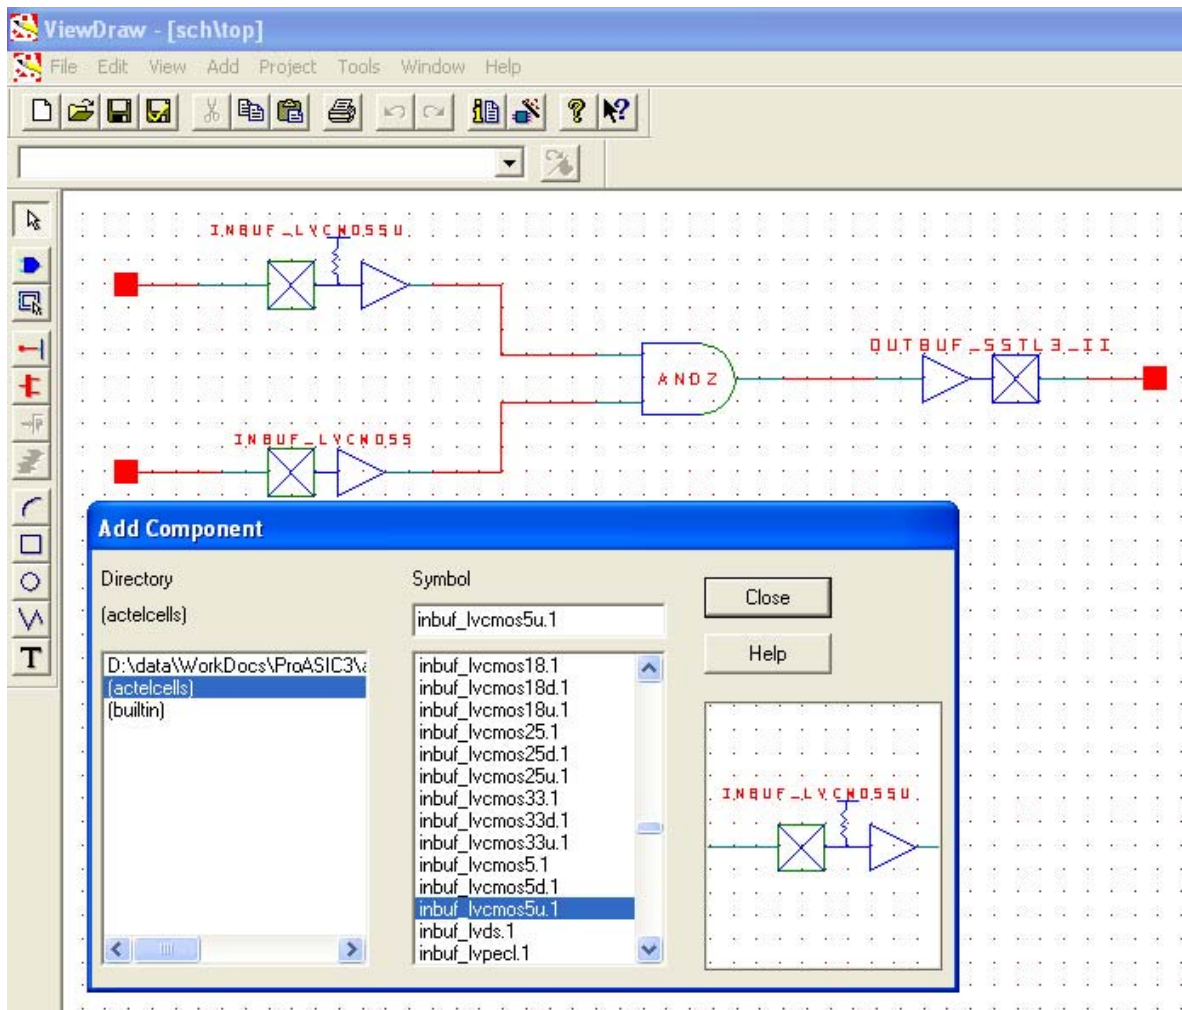

Figure 8-5 • I/O Buffer Schematic Cell Usage
5. Enter a name for the macro. Click **OK**. The core will be generated and saved to the appropriate location within the project files (Figure 8-5 on page 191).
Libero SoC software includes the ViewDraw schematic entry tool. Using ViewDraw, the user can insert any supported I/O buffer cell in the top-level schematic. Figure 8-5 shows a top-level schematic with different I/O buffer cells. When synthesized, the netlist will contain the same I/O macro.